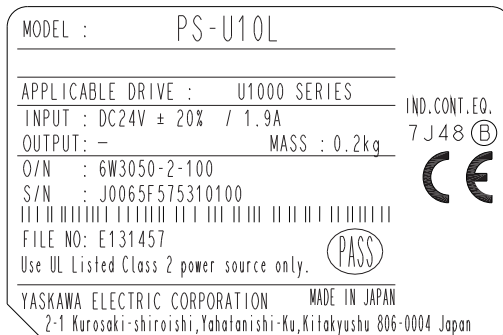

Figure 3 PS-U10L Nameplate Example
- Verify the option model number to make sure that you received the correct model. Refer to *Figure 3* for detail.